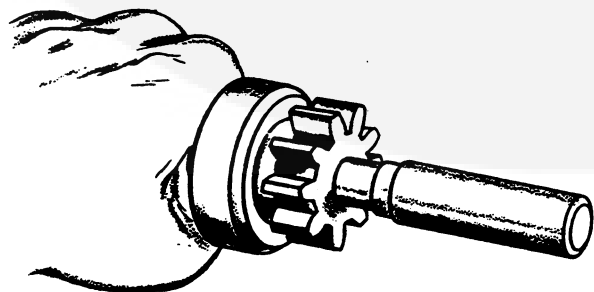

FIGURE 43. TOOL FOR DRIVING PINION STOPPER
5. **Solenoid Starter Only:** Remove the ring after driving the pinion stopper toward the pinion gear using a cylindrical tool, Figure 43. Remove the overrunning clutch and the pinion stopper at the same time.